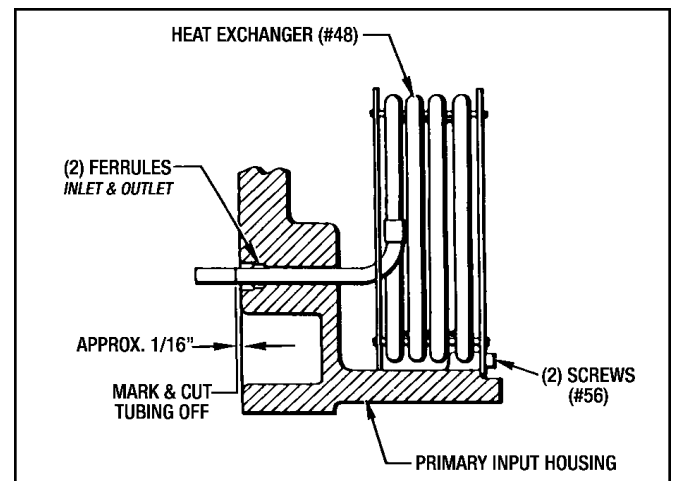

Figure 9.10 - Installing Heat Exchanger
1. Guide the Heat Exchanger (#48) into the Primary Input Housing, making sure that the tube ends project out the (2) holes in the back of the housing. Attach with (2) Screws (#56).
2. Mark the tubing approximately 1/16" beyond the face of the housing. (See Figure 9.10)